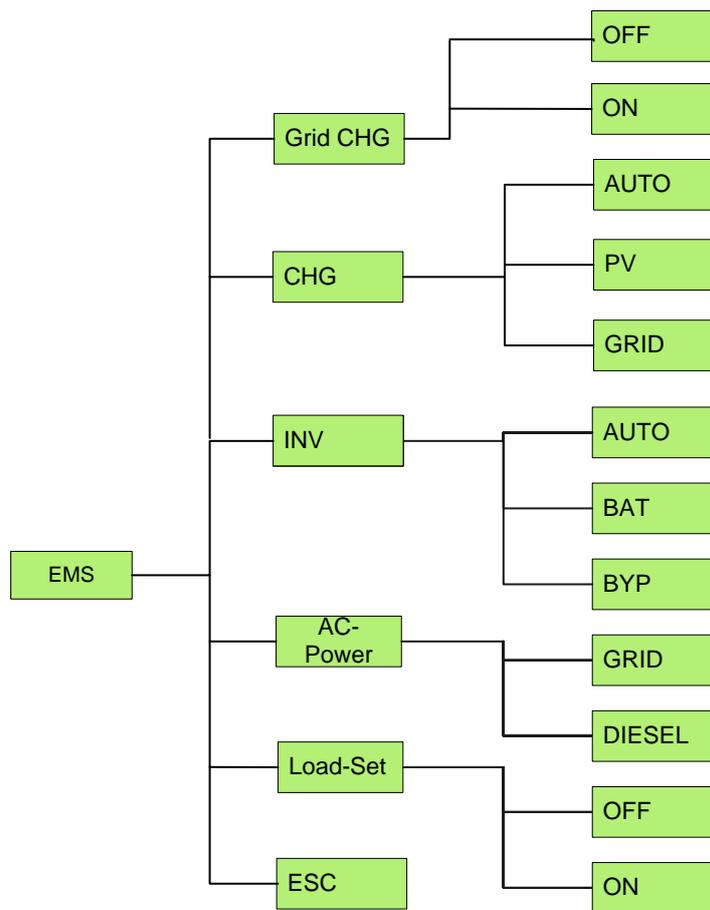

Figure 4-16 Dispatching Settings Classification Diagram
Step 2: Restore the dispatching mode, all dispatching mode be set to automatic mode (specific operations refer to figure 4-16);